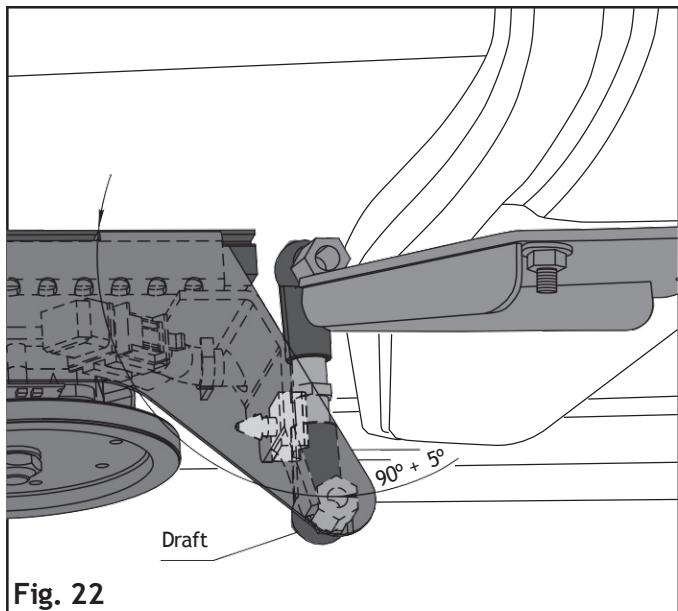
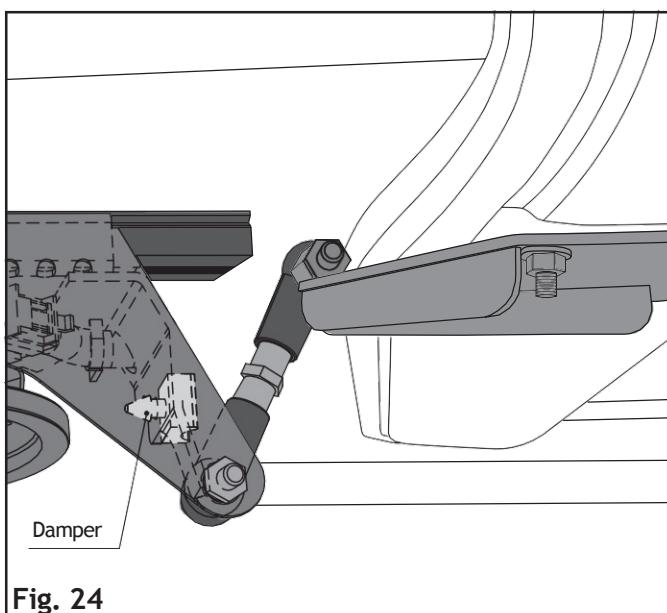
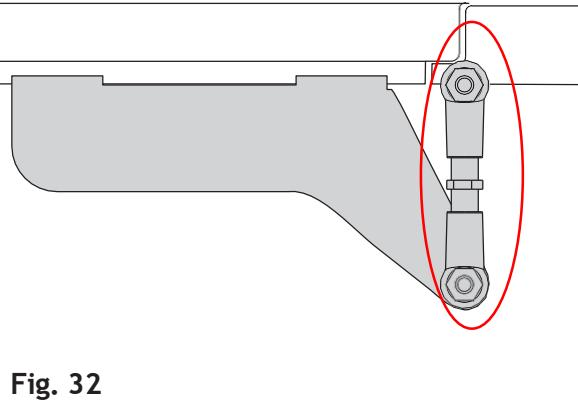
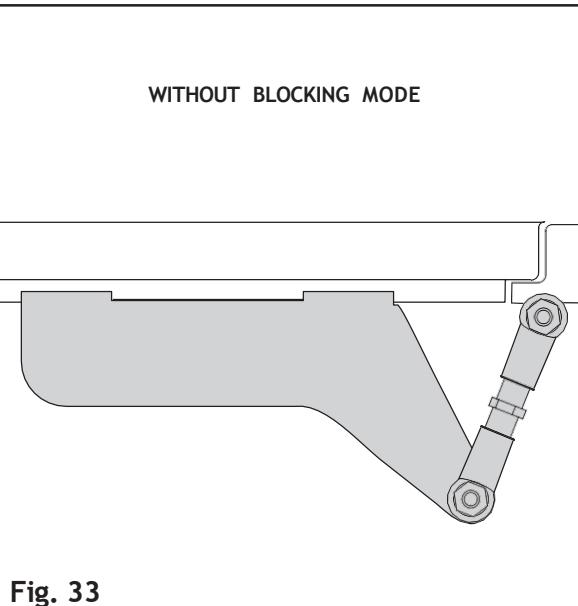

Fig. 22
Fig. 24
Fig. 32
Fig. 33
Draft position with correctly closed door in the locking mode is shown in fig. 22 and fig. 32, p. 26.
If draft installed correctly, it should bear against the cluster gear damper (fig. 24).
Draft position with correctly closed door in the nonlocking mode is shown in fig. 24 and fig. 33, p. 26.
- With blocking mode (in factory settings) fig. 32
- Without blocking (only with lock actuator) fig. 33.
**In blocking mode, in order to open the door, you should hold the motor arm (circled in red on Fig.32) and push it to the left until coming in the position of the Non blocking mode (Fig 33)**